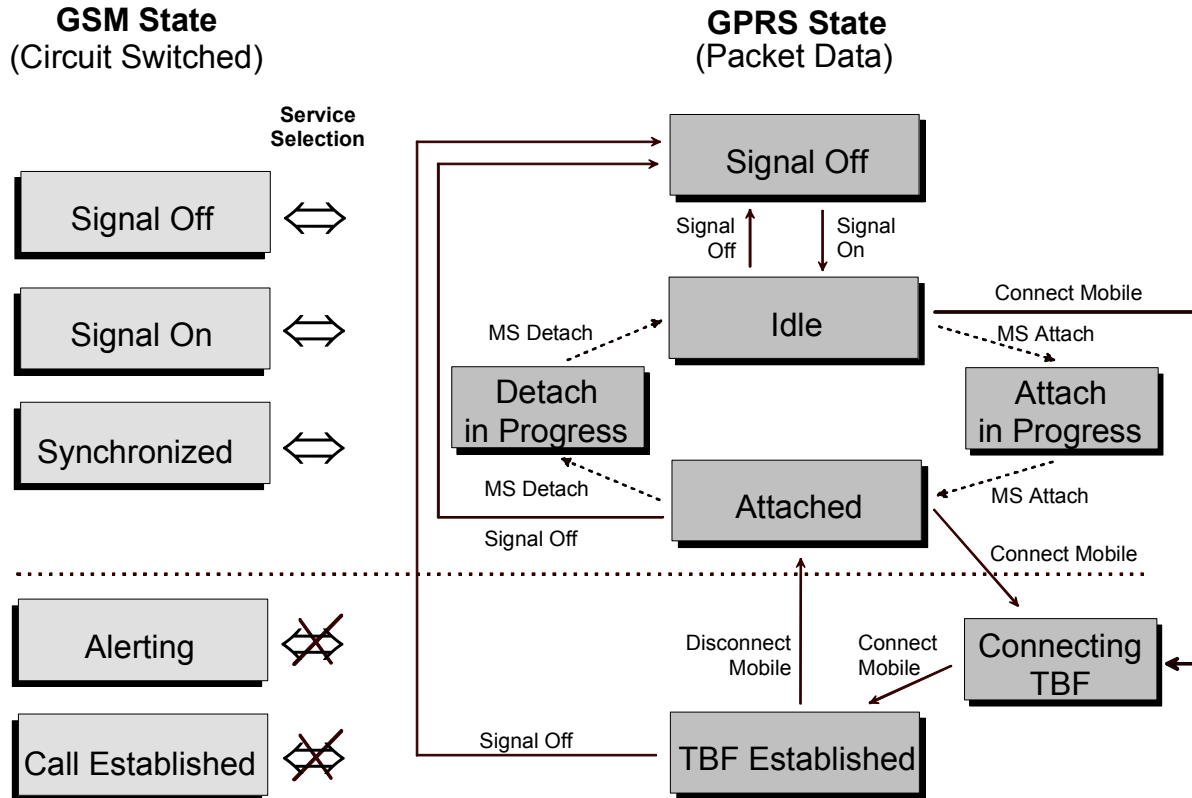

Fig. 4-88 GPRS signalling states
4. The GPRS signalling states and the procedures for setting up a data connection are analogous to the corresponding circuit switched functionality. GPRS is an additional mode of the mobile phone so that the circuit switched GSM and the GPRS signalling schemes are largely independent from each other. Any time before a call or a TBF connection is established, the CMU is able to switch over between circuit switched GSM and GPRS mode (see Fig. 4-88 on p. 4.215).
A number of actions or control commands which can be initiated either by the CMU (e.g. *Signal On*, *Signal Off*) or by the mobile station (e.g. *MS Attach/Detach*) switch between the different signalling states. In Fig. 4-88 on p. 4.215, dashed lines represent processes initiated by the mobile station.
5. To establish a TBF connection proceed as outlined in Fig. 4-88 below and in the following sections.